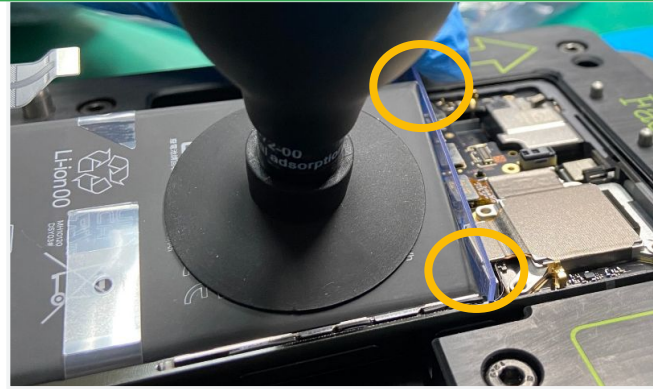
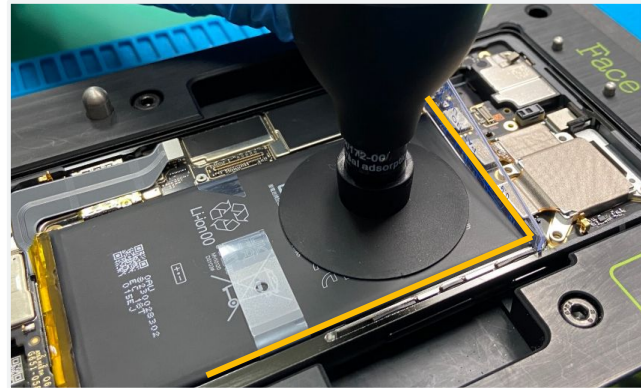

Fig1.
Fig2.
- Move pull jacket (green dot line, from position 1 to 2) in Y-direction(Fig1) to the top edge of the battery. Since the adhesive area (Fig 2,red dot lines) is smaller on the top side. It may be easier to pull from here.
- Hold the right hand pull jacket like Fig1 ,the pull jacket may broken If holding like the Fig2 while lift up battery..
- Move pull jacket (green dot line, from position 1 to 2) in Y-direction(Fig1) to the top edge of the battery. Since the adhesive areas (Fig 2,red dot lines) is smaller on the top side. It may be easier to pull from here.
- Hold the right hand pull jacket like Fig1, the pull jacket may broken If holding like the Fig2 while pull up battery.
- Align the **Battery** at the corners as the figure circles, using the feeler gauge. **(Fig1.)**
- Gently press the **Battery** down with the **Universal adsorption bulb** by the alignment line. **(Fig2.)**